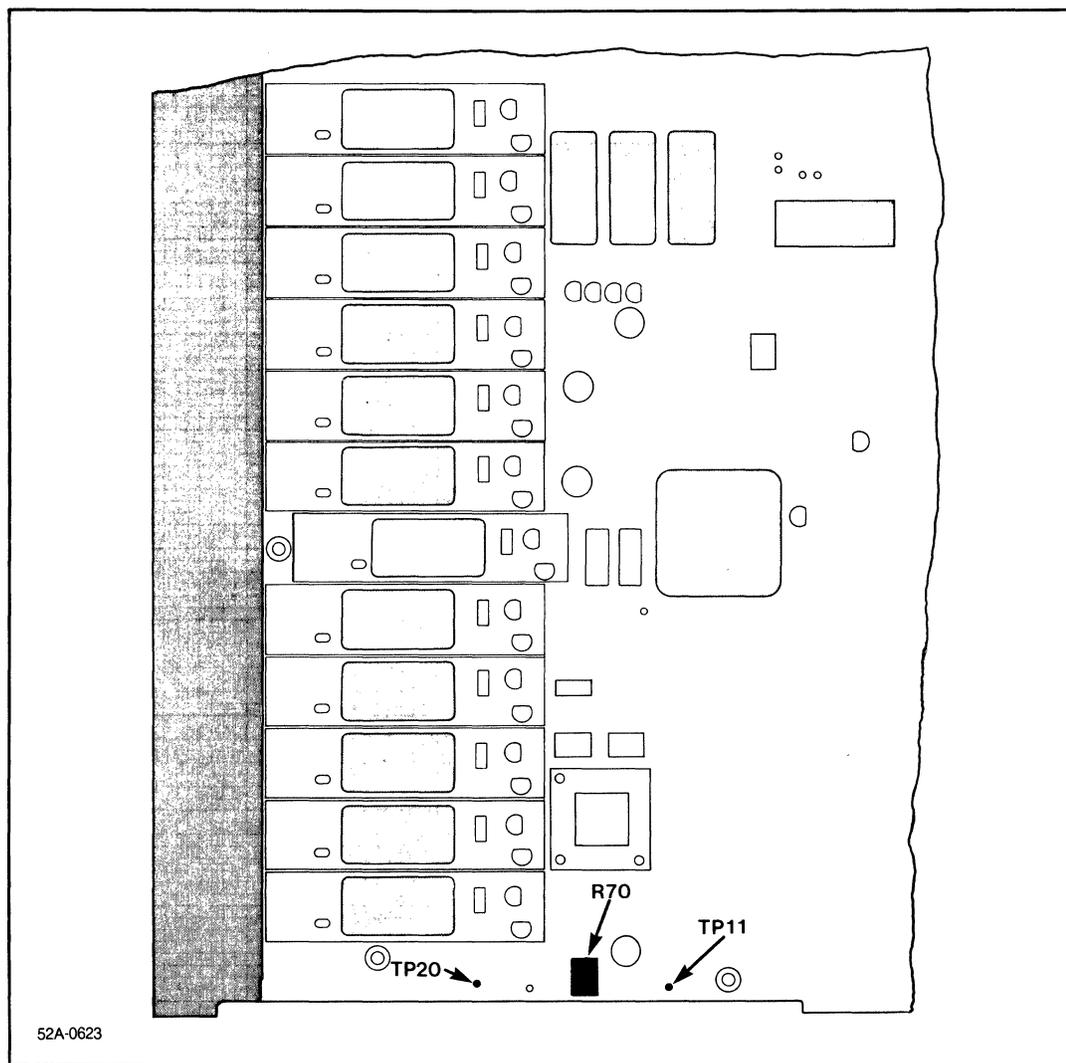

Figure 7-8. First Offset Adjustment
- 4) Connect the voltmeter leads to test points TP11 and TP20. (See figure 7-8.)
- 5) Adjust potentiometer R70 (see figure 7-8) until the voltage reading on the voltmeter is  $0.0 \text{ mV} \pm 0.2 \text{ mV}$ . (The voltage reading will change continuously to some small degree. This noise is normal and should not be of concern as long as it is possible to obtain a continuous offset within the  $0.0 \text{ mV} \pm 0.2 \text{ mV}$  range.)